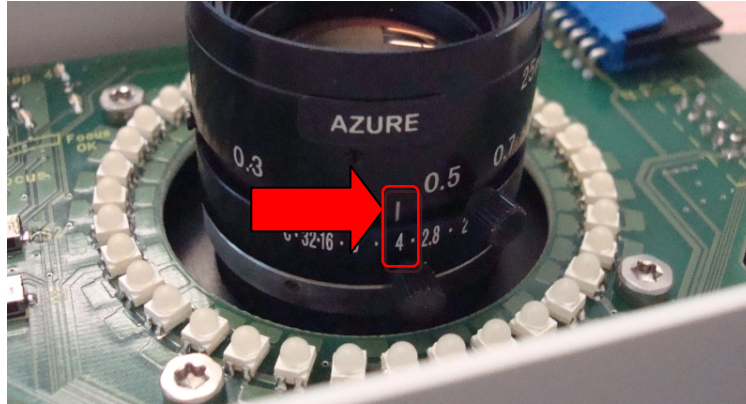

Figure 13: Close aperture to position 4
1. On the single camera close the aperture to position 4 by rotating the inner circle on the lens anti clock wise. Position 4 is reached when the number four on the outer circle is pointing to the white mark indicated in Figure 13.